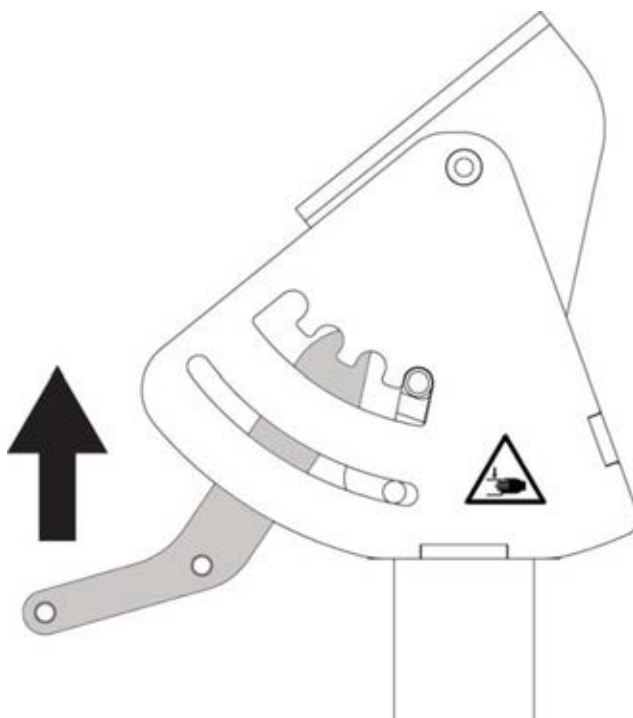

Figure 11 Dispenser Head Angle Adjuster Handle Locked
4. Make sure the **Dispenser** Head Angle Adjuster Handle is locked correctly (refer to Figure 11).